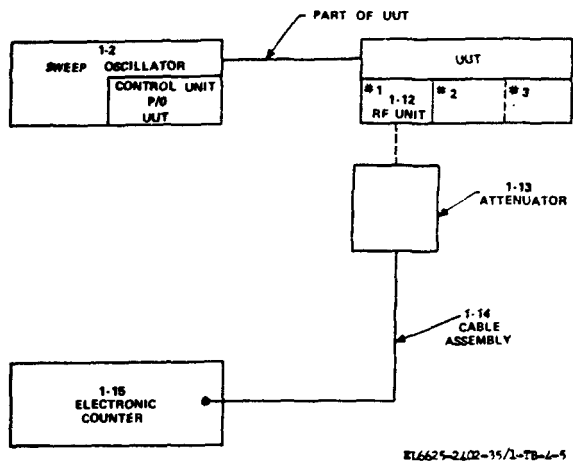

Figure 4-5. Frequency accuracy, equipment setup.
(1) Connect equipment as shown in figure 4-5.
(2) Position sweep oscillator controls as follows:
(3) Set and release UUT #1 SELECT-STANDBY-OFF switch to SELECT.
(4) Record electronic counter indication.
(5) Press UUT control unit #2 pushbutton (top row).